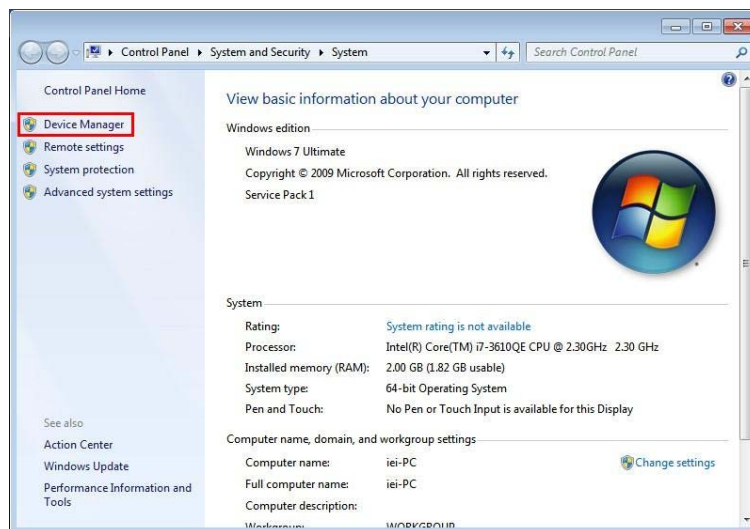

Figure 6-13: System Control Panel
Step 2: The system control panel window in **Figure 6-13** appears.
Step 3: Click the Device Manager link (**Figure 6-13**).